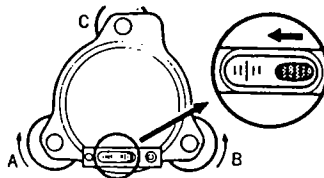

Fig. 104
- 1) See Figs. 104 and 105 for relation between bubble movement and rotation of the leveling screws.